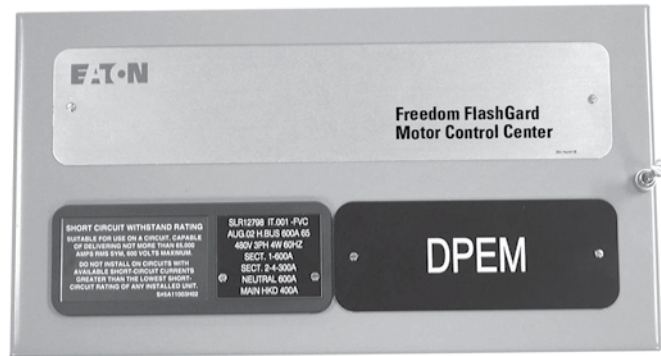
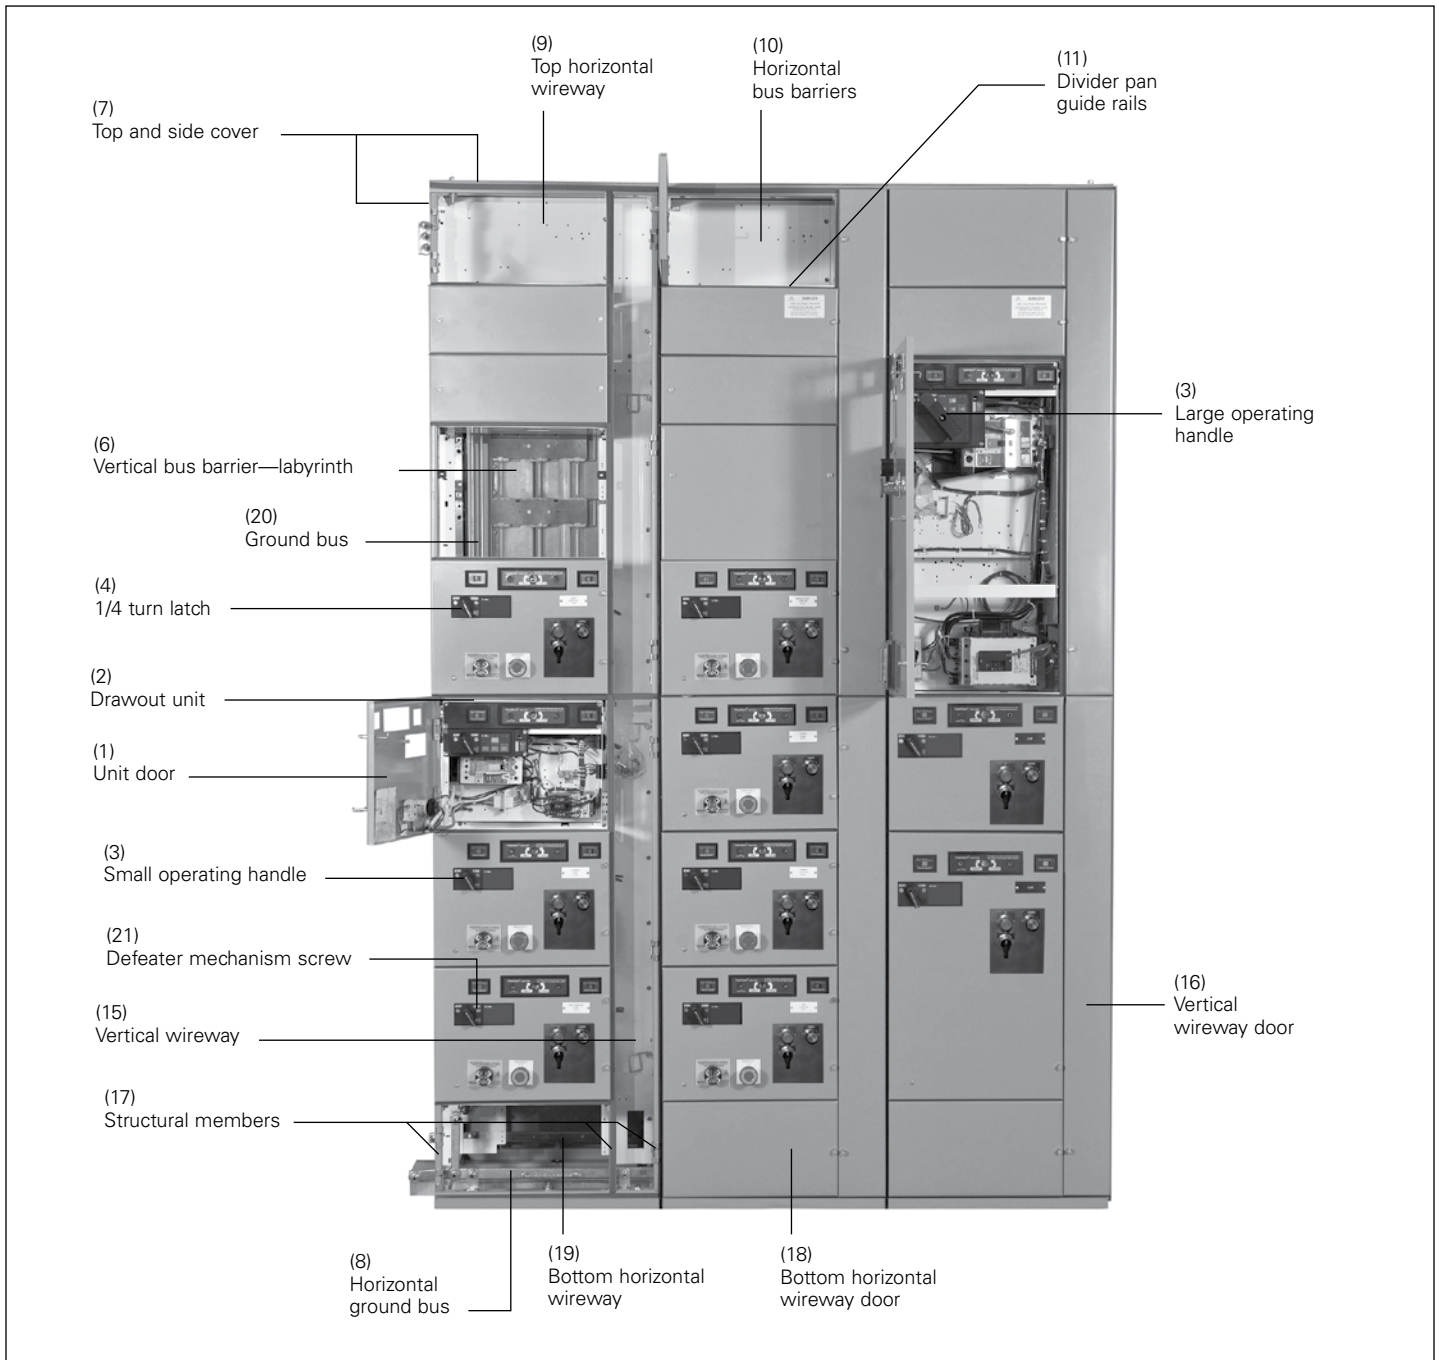

Figure 1. Nameplate
Figure 2. Freedom FlashGard MCC nomenclature
The numbers shown in parentheses in the following text refer to the legends in **Figure 2**. The Eaton Freedom FlashGard MCC consists of one or more totally enclosed, deadfront, free-standing structural assemblies (17) 90 inches high that are compartmentalized to house individual control units (2). With control units mounted in the front side only, the structure may be 16 or 21 inches deep. For mounting units back-to-back, the structure is 21 inches deep. Steel covers (7) enclose the structure at the top, sides, and at the rear of front-mounted-only structures.
Each Freedom FlashGard MCC has a rating nameplate attached to the door of the top horizontal wireway of the primary section. See **Figure 1** and **Figure 2**. This nameplate shows the general order number under which the MCC was built and its continuous electrical ratings, in terms of incoming line voltage, phases and frequency, and ampere ratings of the horizontal bus and the vertical bus for each section. In addition, this nameplate shows the passive short-circuit (withstand) rating of the horizontal and vertical bus system. The active short-circuit (interrupting) ratings of the main and unit short-circuit protective devices are shown on labels attached to the inside of each unit. Before installing an MCC, calculate and record the fault current available at the incoming line terminals. Verify that the short-circuit withstand and short-circuit interrupting ratings of the units in the MCC are appropriate for the fault current available.